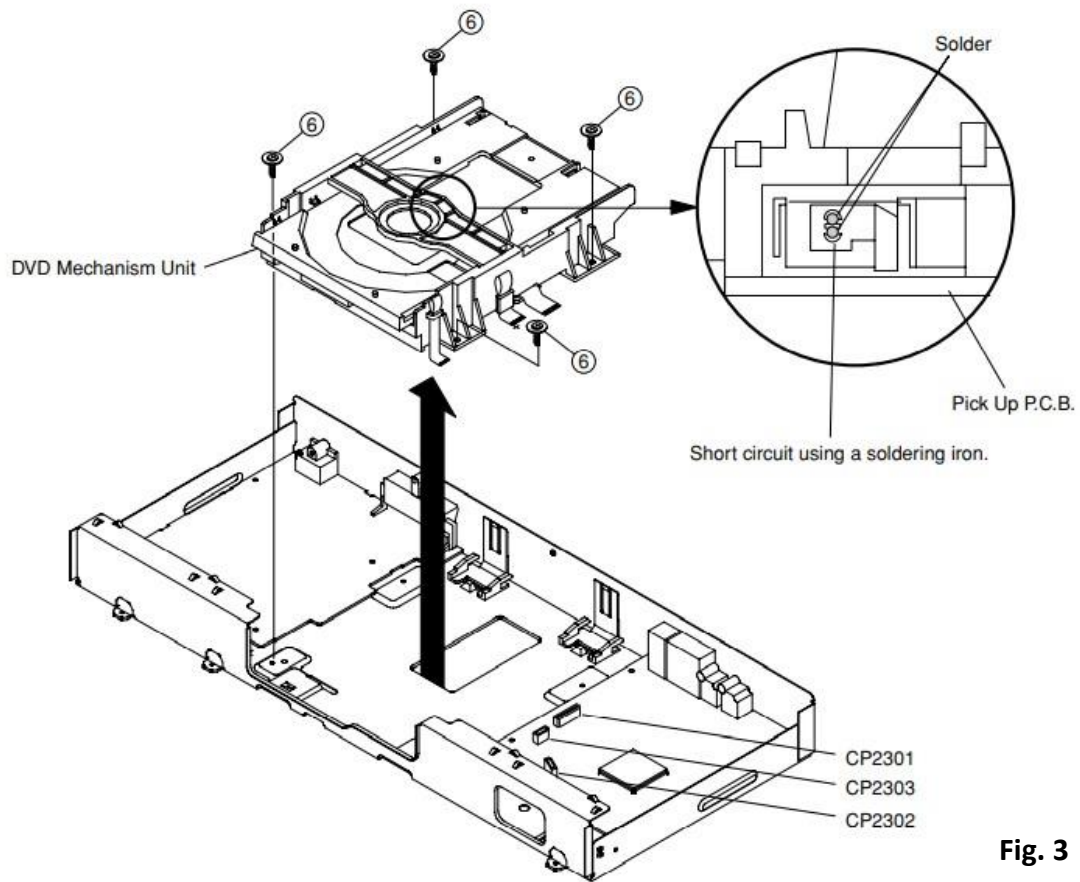

**Fig. 2**
**Step 2: Removal of Top Cabinet (Fig. 2)**
- a. Remove 5 screws (1).
- b. Remove the Top Cabinet in the direction of arrow (A).
**Step 3: Removal of Front Cabinet. (Fig. 2)**
- a. Remove 2 screws (2).
- e. Remove 1 screw (3) and the cable. [CD602] (Silver model)
**Step 4: Removal of OPERATION 1 and OPERATION 2 P.C.B.s. (Fig. 2)**
- a. Remove 4 screws (4).
- d. Remove 3 screws (5).